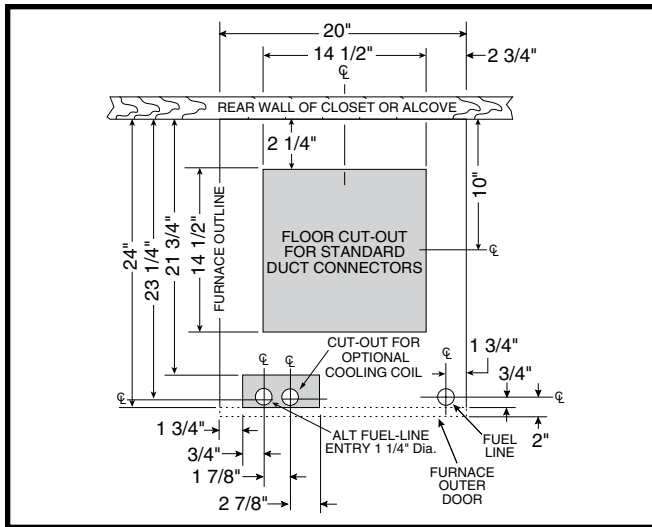
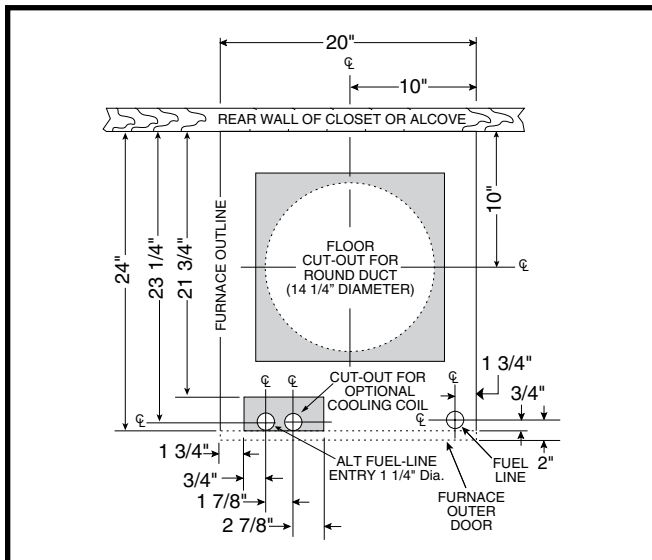

Figure 6. Cut-Out Dimensions for Standard Duct Connectors
Figure 7. Cut-Out Dimensions for Round Duct Connectors
Floor cut-outs and fuel line holes must be carefully located to avoid misalignment of the furnace, and vent piping. To locate standard ducts see Figure 6 \(page 7\). For round ducts, see Figure 7 \(page 7\).
2. Using the centerline as a starting point, draw the rest of the duct cut-out to the dimensions shown in Figure 6 or Figure 7.
- Measure and drill gas hole and cut out for cooling coil (if applicable). See Figure 6 or Figure 7.